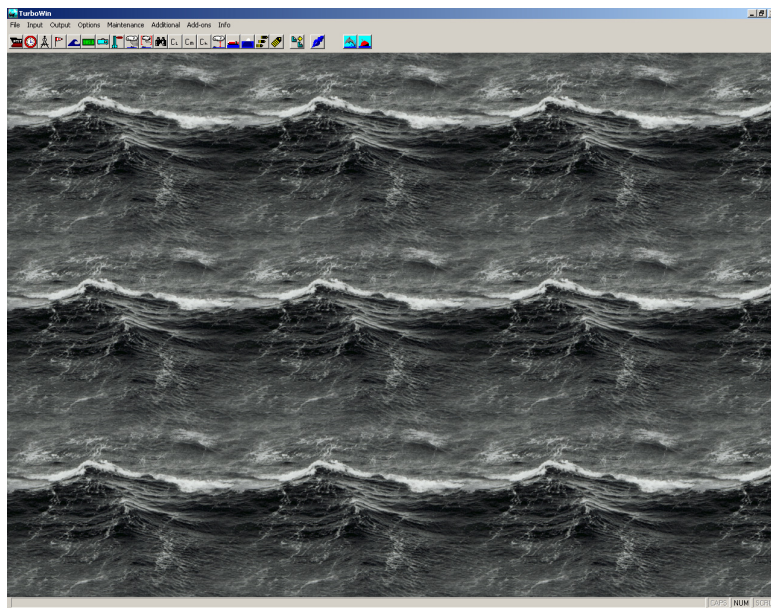

Figure 2. The default TW50 desktop
- 6.1. The default **TW50** desktop is shown in **Figure 2** and comprises a work area, toolbar (**Figure 4**) and menu bar (**Figure 5**).